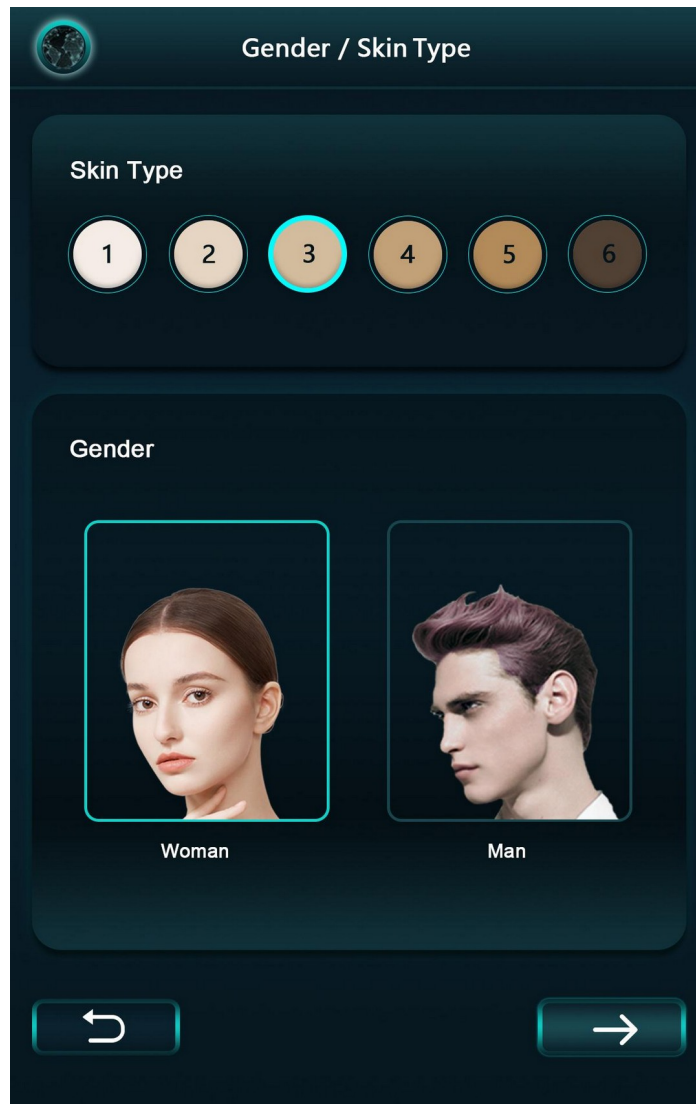

Figure 5.31
3. There are 4 working modes to select from: SHR Mode, Professional Mode, SSR Mode, and Stack Mode (see Figure 5.31).